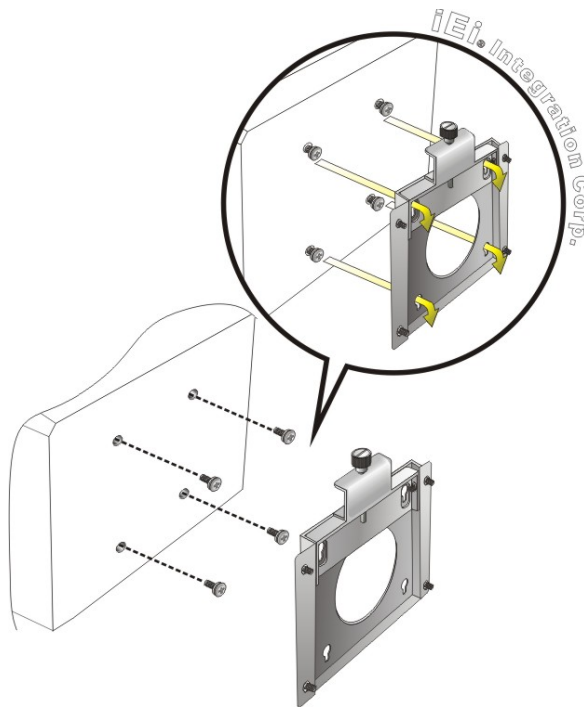

Figure 3-29: Chassis Support Screws
Step 6: Insert the four monitor mounting screws provided in the wall mount kit into the four screw holes on the rear panel of the medical panel PC and tighten until the screw shank is secured against the rear panel (**Figure 3-29**).
Step 8: Carefully insert the screws through the holes and gently pull the monitor downwards until the monitor rests securely in the slotted holes (**Figure 3-29**).